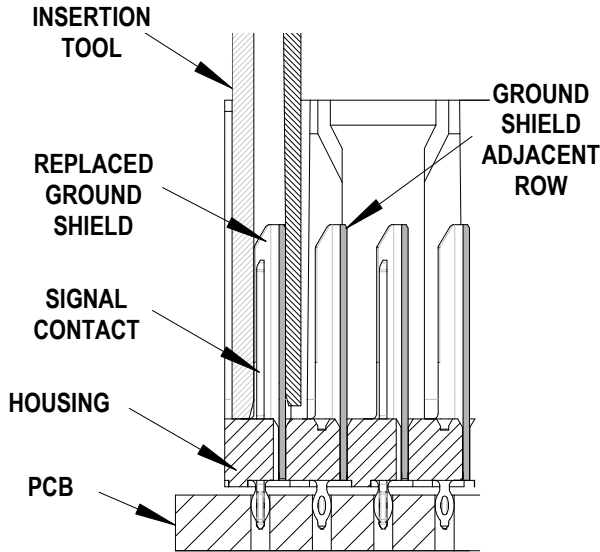

Figure 2
4. Make sure the ground shield is in the correct orientation. Check the column where the repair ground shield is being replaced and compare the column to the ground shield on the insertion tool. The two should be the same. The adjacent column is oriented in the same direction. See Figure 2.